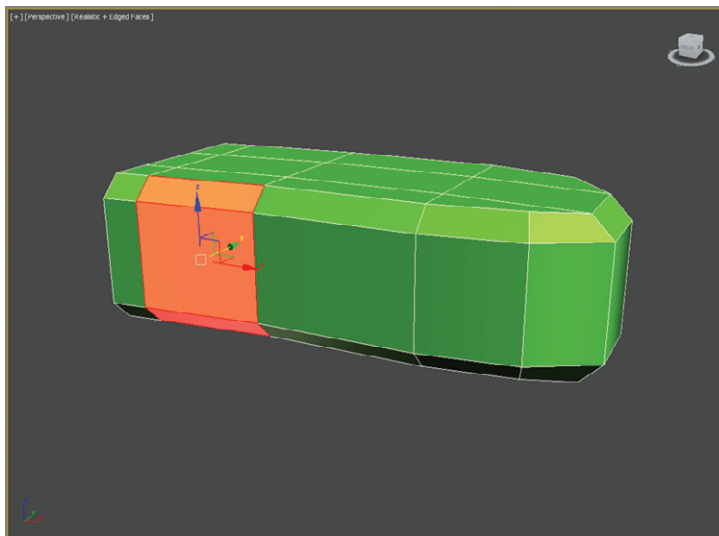

FIGURE 8.29 Select the three polygons to prepare the extrude.
9. In Polygon mode, select the three polygons on the side of the hand, forward of the newly created edge, as shown in Figure 8.29.